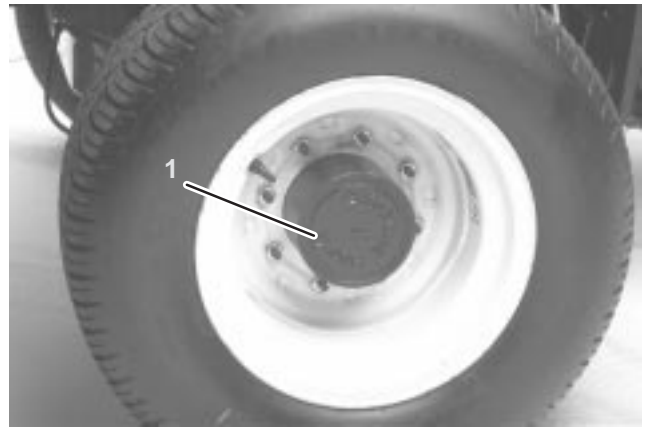

Figure 64
1. With machine on level surface, position wheel so the check/drain plug is at lowest position (Fig. 64).